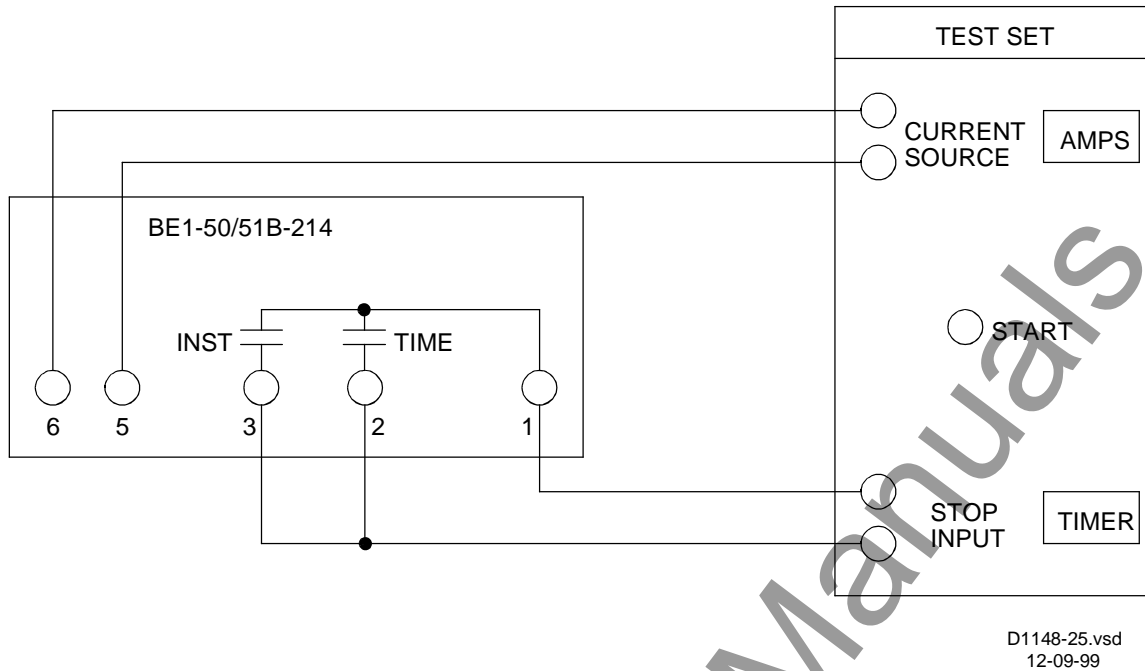

Figure 5-1. Pickup And Timing Test Setup
The following procedure verifies operation of the relay. The test setup of Figures 5-1 and 5-2 are intended primarily as an illustration of the principles involved. Other test setups known to be capable of testing with the stated and implied tolerances (including equipment specifically designed for testing relays) may be used.
- Connect test setup as shown in Figure 5-1.
Single phase relays such as the BE1-50/51B-214 are normally used in groups of four (three phase and ground) on the protected circuit. This relay scheme allows each unit to be withdrawn one at a time for testing purposes without losing protection. Only three are required at any one time to sense all types of faults on a grounded wye system. Refer to Figures 5-1 and 5-2 for recommended test setups.